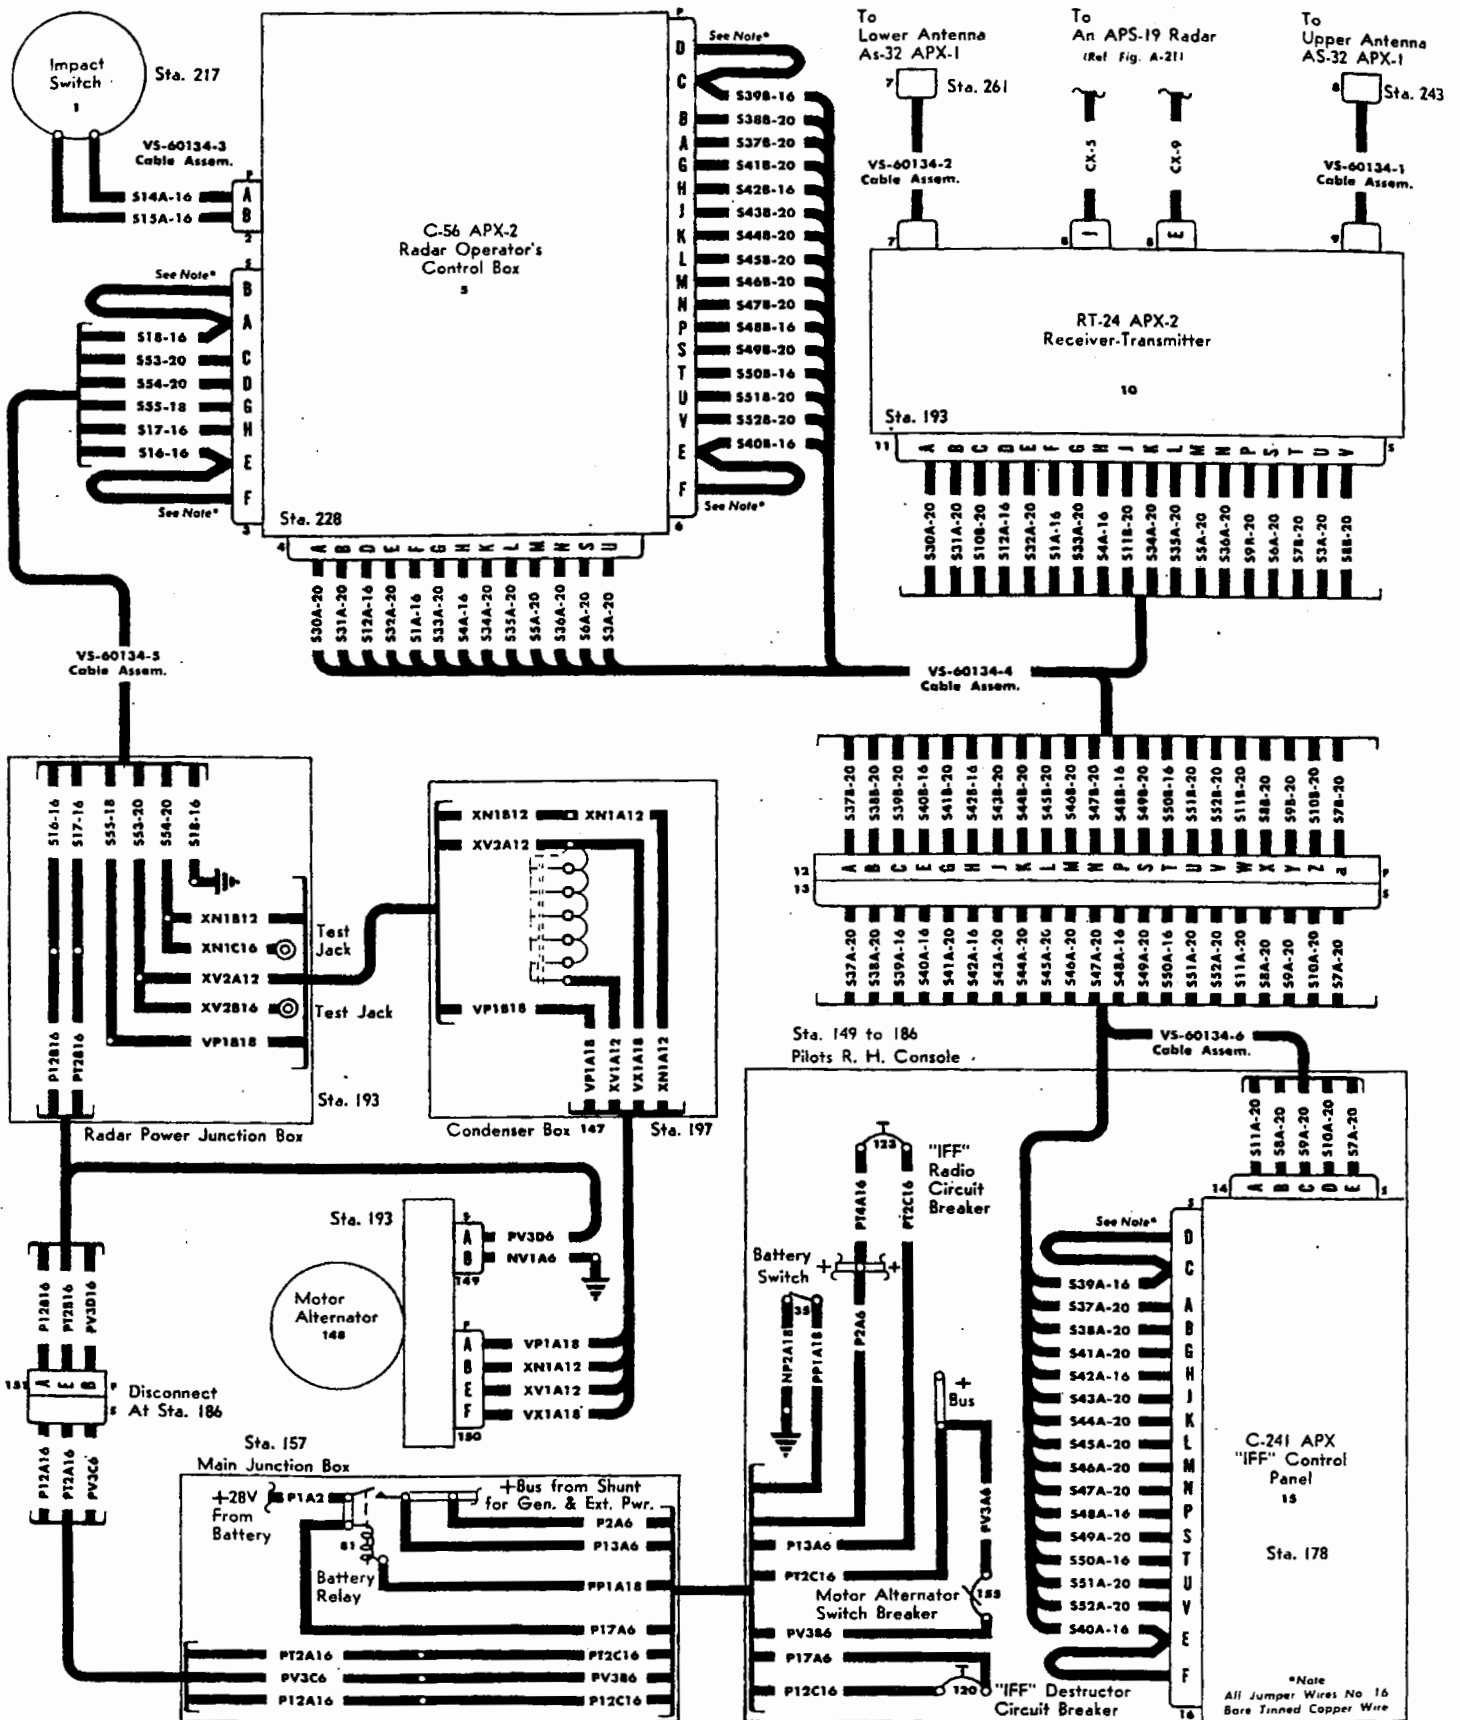

Figure A-23. AN/APX-2 IFF Cabling Diagram.
c. INTERROGATOR-RESPONSOR. The interrogator-responder operates on a preset frequency within the range of 160 to 184 megacycles. The interrogator makes it possible for the pilot to challenge air or sea forces for IFF identification. The IFF identification reply is picked up by the responder and projected on the radar scope. For further information on the AN/APX-2 IFF equipment see AN 08-20-12, Handbook of Maintenance Instructions for Model AN APX-2 Aircraft IFF Equipment. For wiring diagram information see figure A-23.
sonnel should be notified. Check to make certain that the ac and dc pilot lamps on the operator control unit go on when the radar motor alternator power switch, motor alternator circuit breaker, IFF circuit breaker and IFF master control switch are turned "ON". Check for burned out fuses on the operator control unit and on the receiver-transmitter. Make certain that all cable connections are tight. If trouble is not caused by power source failure or if fuses repeatedly burn out, isolate the trouble by replacing each IFF unit (including cables) until the defective unit is located. For wiring diagram information see figure A-23. For more detailed information on trouble shooting and testing of the IFF equipment see AN 08-20-12, Handbook of Maintenance Instructions for Model AN APX-2 Aircraft IFF Equipment.